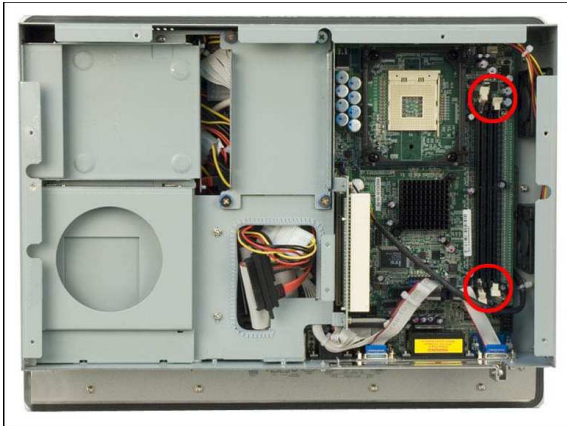

Figure 4-7: DIMM Socket Clip Locations
Step 2: Locate the DIMM. It is on the motherboard near the top of the IVC-19PC-P flat screen PC. Push the white clips on the side of the DIMM down. The DIMM is dislodged from the DIMM socket. (See **Figure 4-7**)